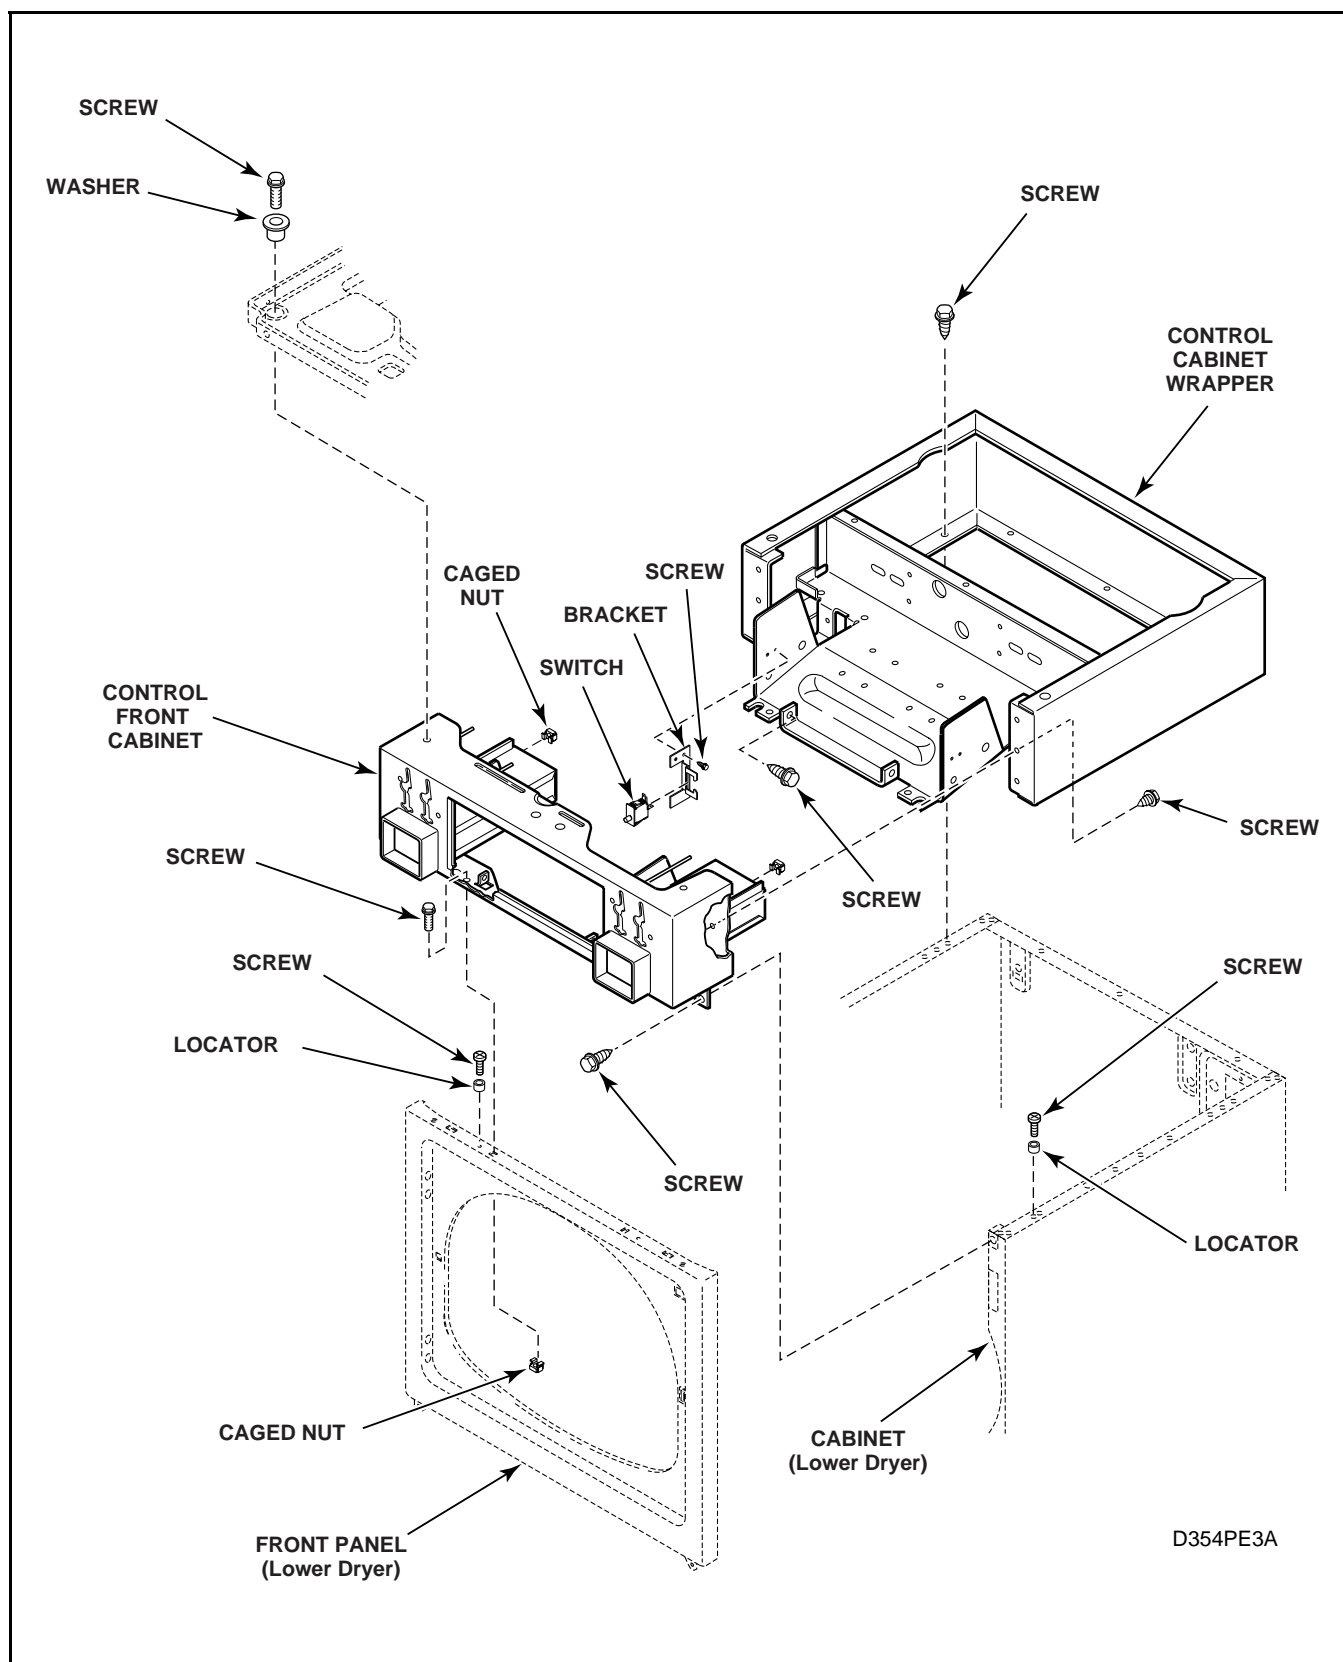

Figure 17
- n. **METERED MODELS (Coin Drop and Coin Slide)** - Unlock and remove two coin drawers. Reach in through coin drawer opening and remove two screws (per side) holding control cabinet to control cabinet wrapper. See *Figure 17*.